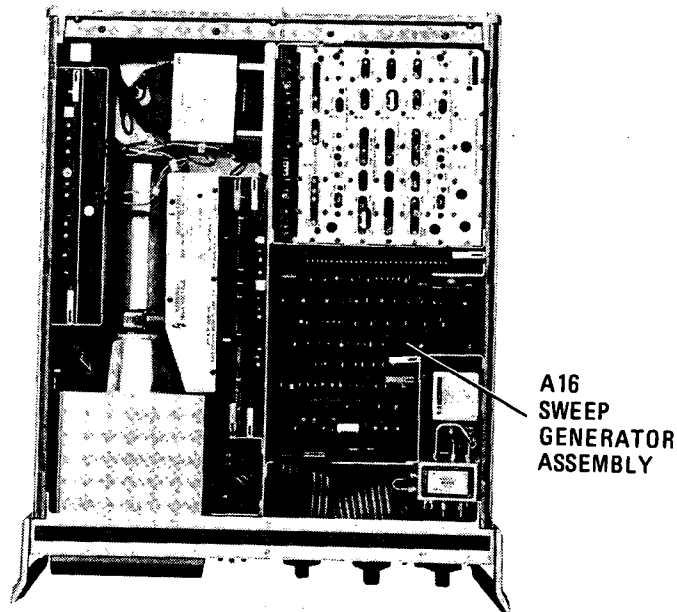

Figure 5-25. Sweep Generator Adjustment Locations
3. Connect digital voltmeter to A16TP3 + 10 VTV and use A16TP4 for ground return. Adjust A16R9 + 10 VTV for $+10.00 \pm 0.01V$ (See Figure 5-25).